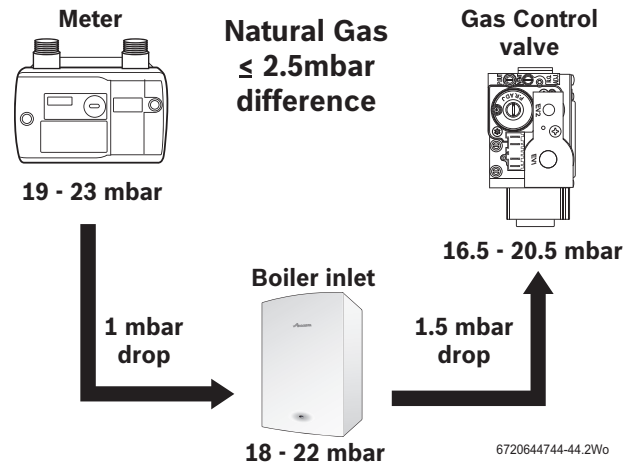
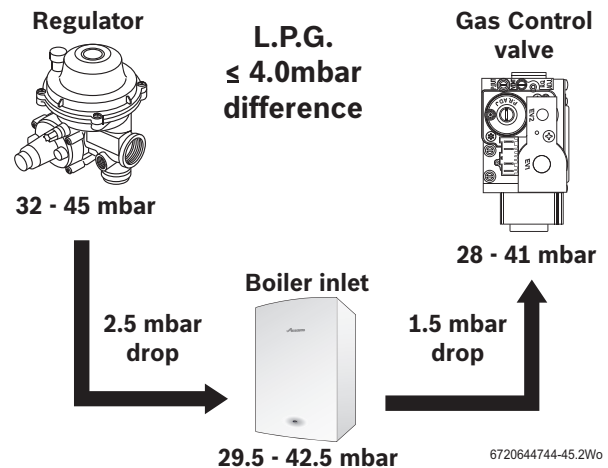

Fig. 48 Natural gas pressures
Fig. 49 L.P.G. pressures
- ▶ Slacken the screw in the inlet pressure test point (1) and connect a manometer.
- ▶ Check the gas supply working pressure at the gas valve conforms to values shown in Fig. 48 or Fig. 49.